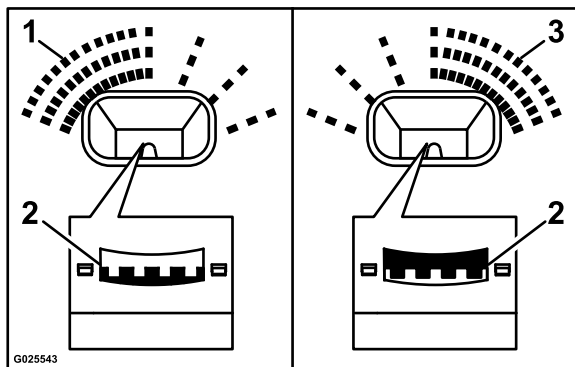
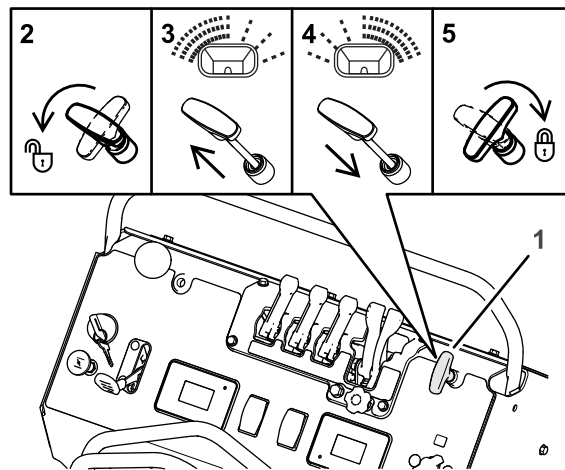

Figure 33
Figure 34
If the spreader casts material unequally side-to-side—too light/heavy to one side—(see Figure 33 and Figure 34), adjust the spreader-pattern.
1. Unlock the spreader-pattern control by turning the handle counterclockwise 90° as shown in 2 of Figure 34.
- If the material is broadcast too heavy at the left side of the machine, pull the spreader-pattern control up slightly; refer to 3 of Figure 34.
- If the material is broadcast too heavy at the right side of the machine, push the spreader-pattern control down slightly; refer to 4 of Figure 34.
3. Lock the spreader-pattern control by turning the handle clockwise 90°; refer to 5 of Figure 34.